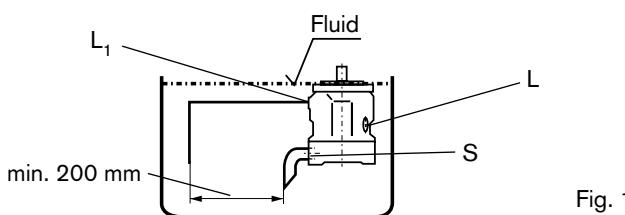

Fig. 1
a) If the min. fluid level is equal to or above the pump mounting face: plug port " L ", " L_1 " and " S " open; it is recommended to pipe " L_1 " and connect a suction pipe to " S " (see fig. 1).